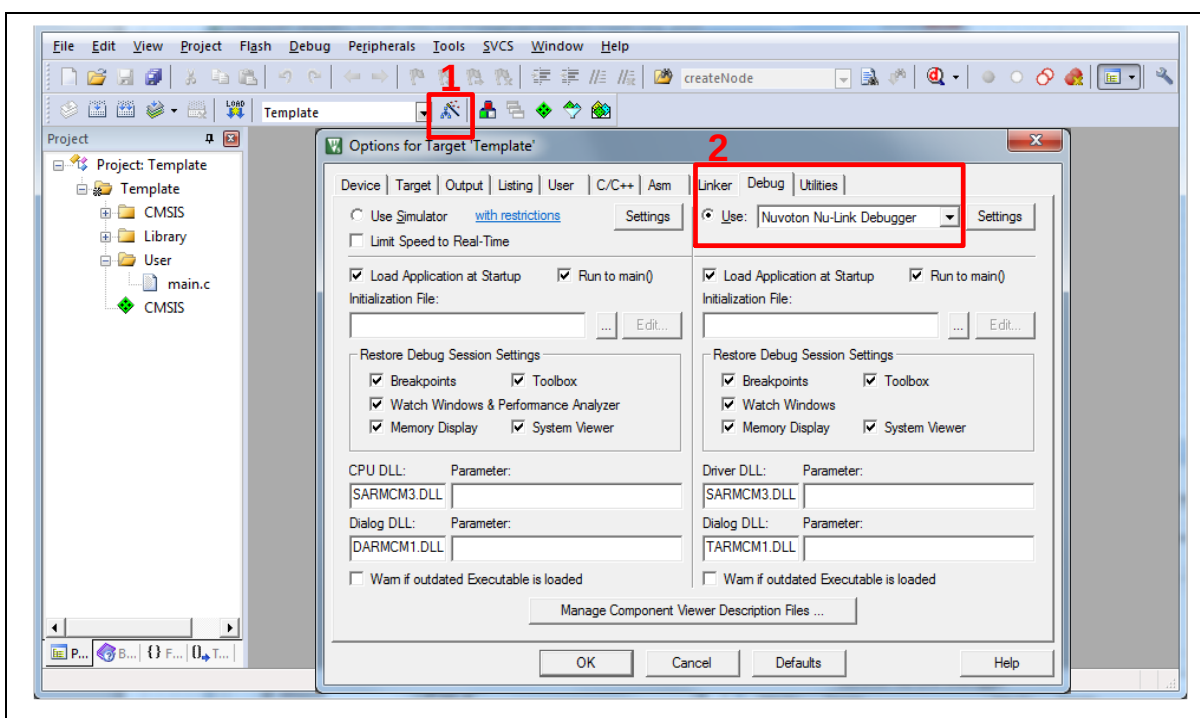
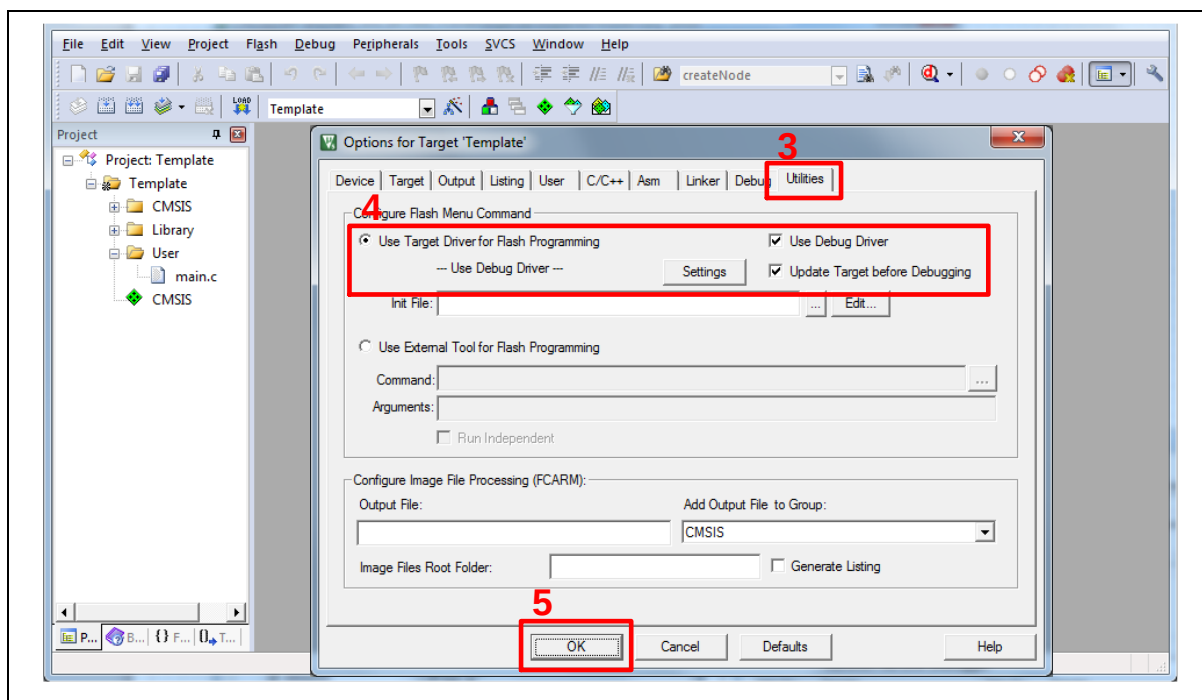

Figure 4-10 Debugger Setting in Options Window
Figure 4-11 Programming Setting in Options Window
2. Make sure the debugger is “Nuvoton Nu-Link Debugger” as shown in Figure 4-10 and Figure 4-11.
Note: If the dropdown menu in Figure 4-10 does not contain “Nuvoton Nu-Link Debugger” item, please rework section4.2.